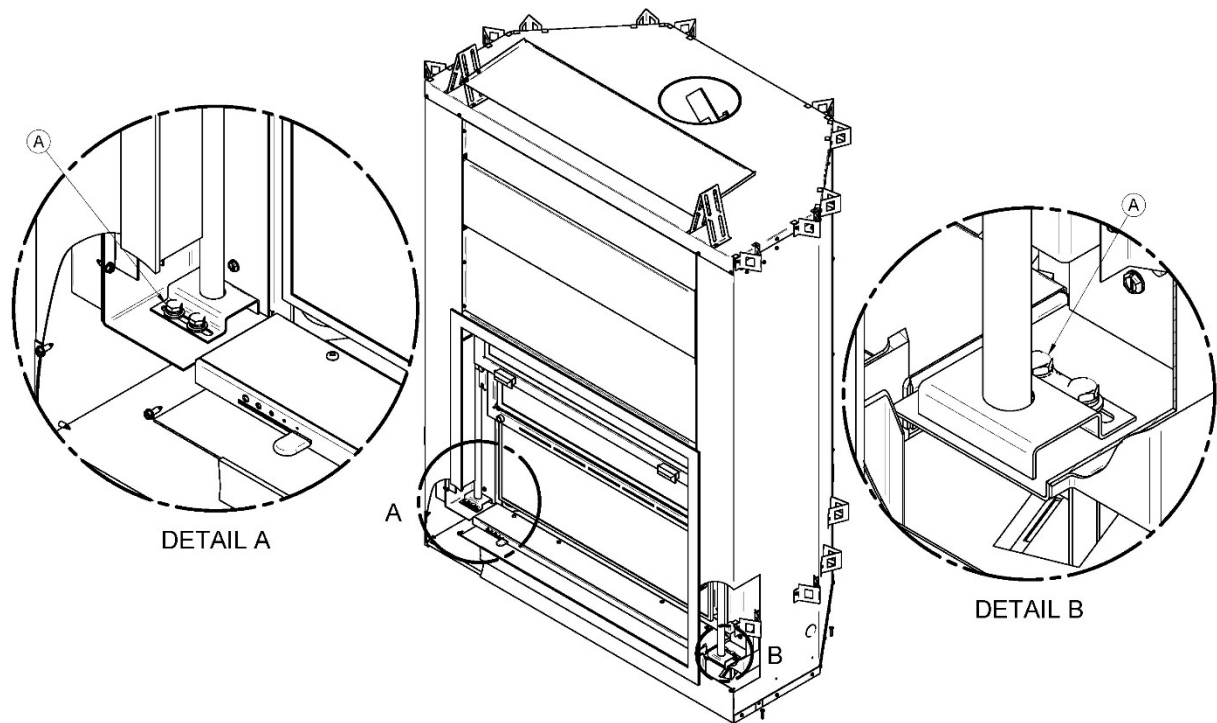

Figure 29
3. Unscrew the two bolts (A) which are located on the lower left of the door (See Figure 29).
2. Unscrew one of the two bolts (A) which are located on the lower right of the screen door (See **Figure 29**).